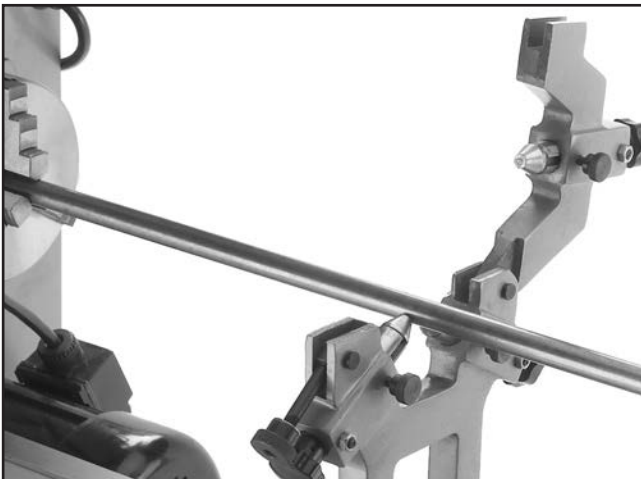

Figure 33. Loading the workpiece into the steady rest.
4. Loosen the knurled thumb wheel, and pivot the head out of the way (see **Figure 33**).